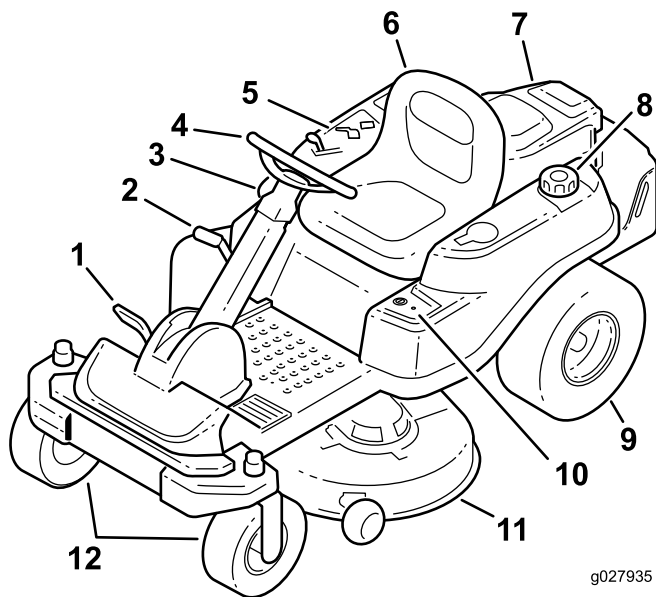
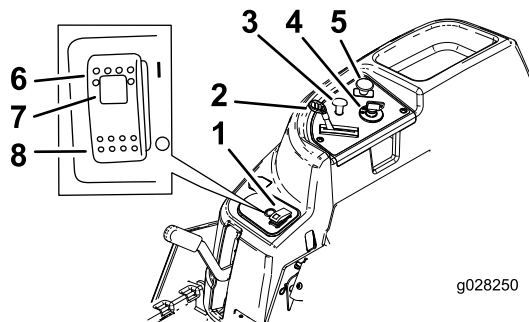

Figure 4
Figure 5
Become familiar with all controls in Figure 4 and Figure 5 before you start the engine and operate the machine.
The ignition switch has 3 positions—Off, Run and Start. The key will turn to Start and move back to Run upon release. Turning the key to the Off position will stop the engine; however, always remove the key when leaving the machine to prevent someone from accidentally starting the engine (Figure 5).
Use the choke to start a cold engine. Pull the choke knob up to engage it. Push down on the choke knob to disengage it (Figure 5).
The throttle control is variable between Fast and Slow. Moving throttle lever forward will increase engine speed and moving throttle lever to the rear will decrease engine speed (Figure 5).
The blade-control switch, (PTO), engages and disengages power to the mower blades (Figure 5).
- Pressing the SmartPark™ switch to the On position (Figure 5).